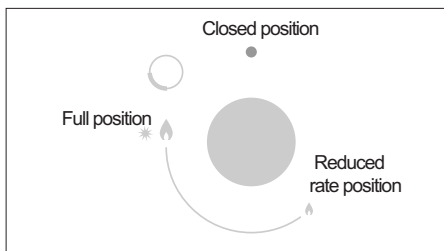

FIG. 1
Push and turn the knob corresponding to the required burner in an anticlockwise direction until it reaches the full on position (large flame fig. 1), then depress the knob.
The knobs of burners equipped with flame failure device must be turned in an anticlockwise direction until they reach the full on position (large flame fig. 1) and come to a stop. Now depress the knob in question and repeat the previously indicated operations.
- When the pan comes to the boil, set the knob to the reduced rate position (small flame fig. 1).
- burners with flame failure device may only be ignited when the relative knob has been set to the Full on position (fig. 1).